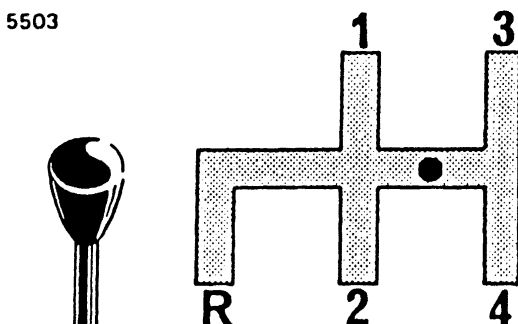

Fig 2 Gear change diagram - main gearbox
25. The main gearbox has four forward speeds and one reverse, with synchromesh operation on top. 3rd and 2nd gears. The gear shift lever positions shown in Fig 2 are also marked upon the knob on the top of the gear shift lever.